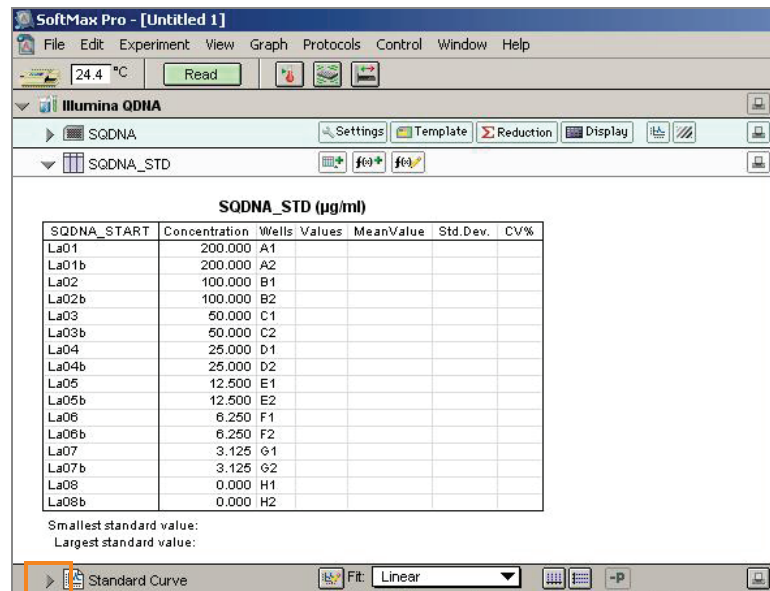

Figure 23 View Standard Curve
8. Click the blue arrow next to **Standard Curve** to view the standard curve graph (Figure 23).